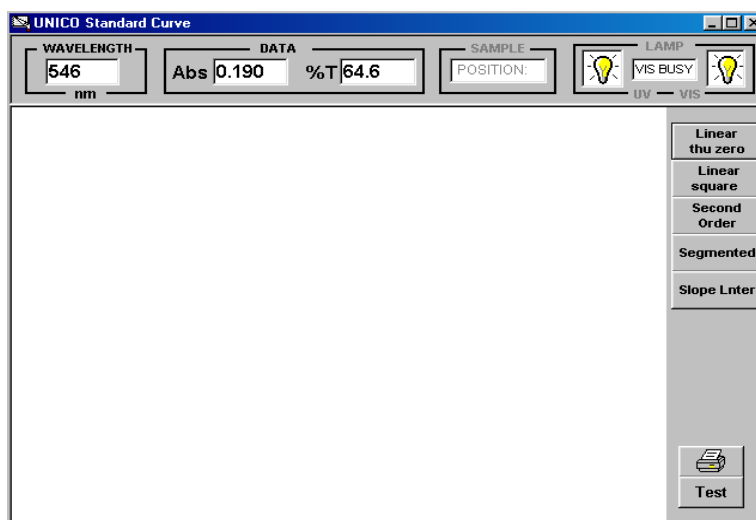

Figure-27 The Five Function Buttons of **Standard Curve**
Step 1: Select the desired **Standard Curve** by clicking on one of the five buttons (Figure-27). Shown in Figure-41 is **Linear Squares** (Least Squares Method). Items in the equation next to the **Linear Squares** title on the graph are Abs, the slope, and y-intercept as well as **Correlation Coefficient**.